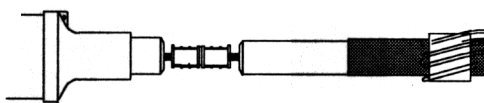

Figure 3
5. Install connector, using CI connector (or equivalent) crimped per table. NOTE: Do not crimp inside knurl region. Remove excess contact aid and file sharp connector flashing if present. Figure 3.